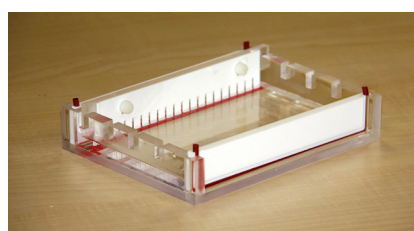

Fig.3
- Allow the agarose to set, ensuring that the gel remains undisturbed (Fig.3)